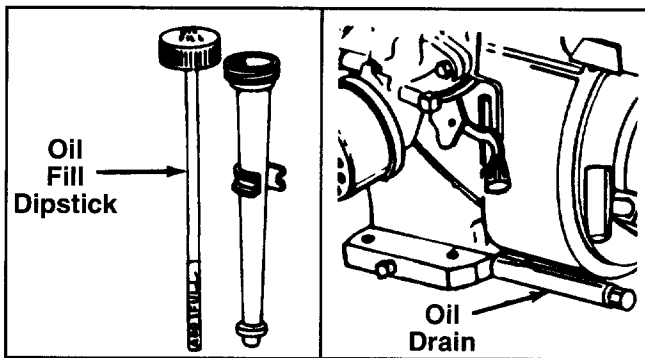

FIGURE 12.
- Use engine oil provided. Remove oil fill dipstick. See figure 12. With chipper-vacuum level, use a funnel to fill engine with oil to FULL mark on dipstick. Capacity is approximately 20 ounces. **Be careful not to overfill.** Oil bottle provided contains 20 oz. of oil. Tilt chipper-vacuum toward the left (from behind the hopper), then re-level. Check oil level. Refill to FULL mark on dipstick if necessary. Replace dipstick and tighten.
Your four-cycle engine will normally consume some oil—therefore, check engine oil level regularly approximately every five hours of operation and before each usage. Stop engine and wait several minutes before checking oil level. With engine level, the oil must be to FULL mark on dipstick (refer to figure 12). Change engine oil after the first five hours of operation, and every twenty-five hours thereafter.
- a. Remove oil drain cap. Refer to figure 12. Catch oil in a suitable container.